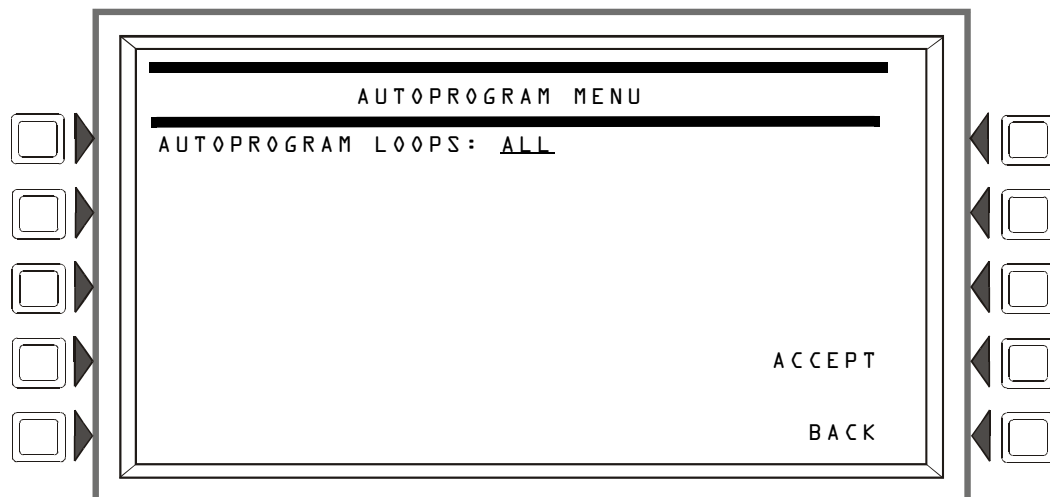

Figure 3.46 Autoprogram Menu Screen
3. Press the **AUTOPROGRAM LOOPS** soft key and enter the desired SLCs (loops **1+2** in this example) in the Autoprogram Menu screen (Figure 3.46)